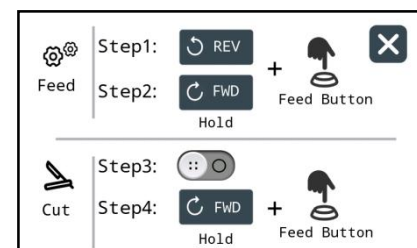

Figure 7b
1) Tap in the settings page to enter this page. (Figure 7b).